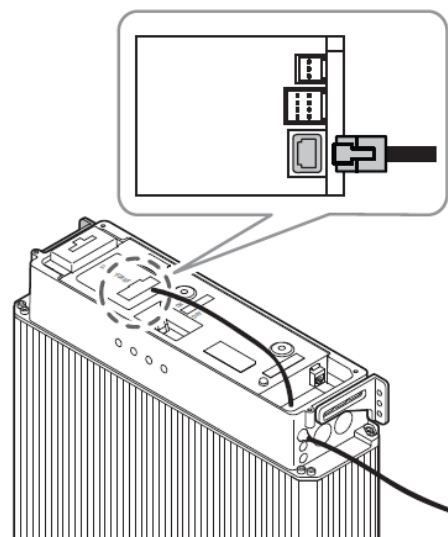

Figure 2 Insert RJ45 plug into battery port
**Step 1** Insert the RJ45 plug into the battery port until it makes a clicking sound (Figure 2).